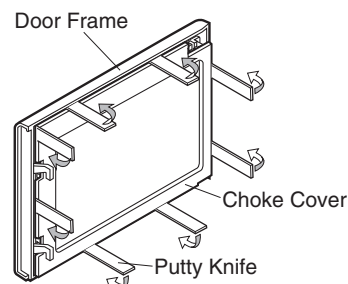

Figure C-4. Door/Latch head Replacement
- Remove choke cover by inserting a putty knife (thickness of about 0.5mm) into the gap between the choke cover and door frame as shown in **Figure C-4** to free engaging parts.